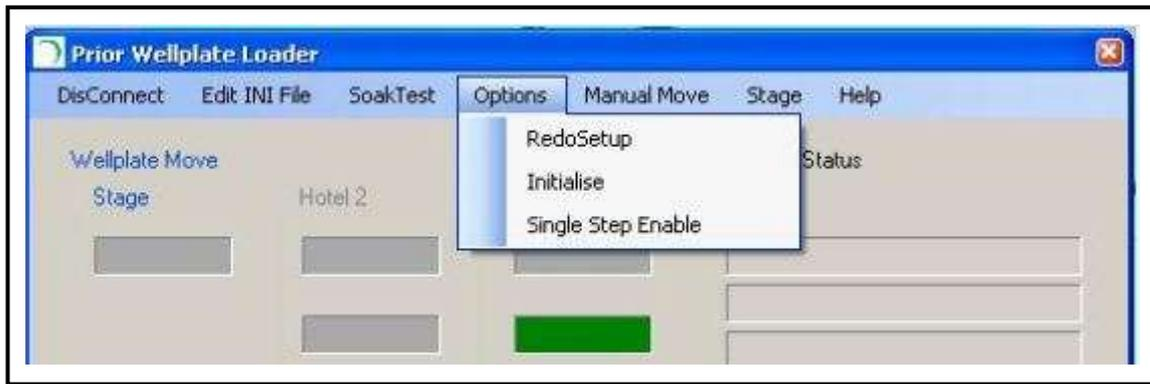

Fig: 41
3. Goto Options and check Single Step Enable (Fig 41). The 'Do Single Step' button will now appear.